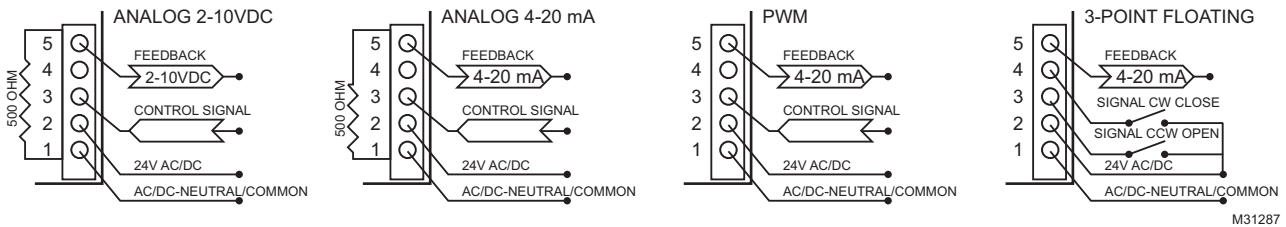

Fig. 5. Wiring connections.
- Wire the Terminal Strip according to the appropriate diagram for your actuator. See Fig. 5.